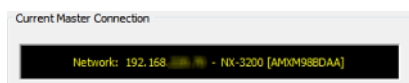

FIG. 20 NetLinX Studio - Communication Settings dialog (Current Master Connection field indicating the selected IP address)
7. Click **OK** to save your newly entered information and close the *Communication Settings* dialog and return to the *Communication Settings* dialog. Note the selected IP address is indicated in the *Configuration* field (FIG. 20):